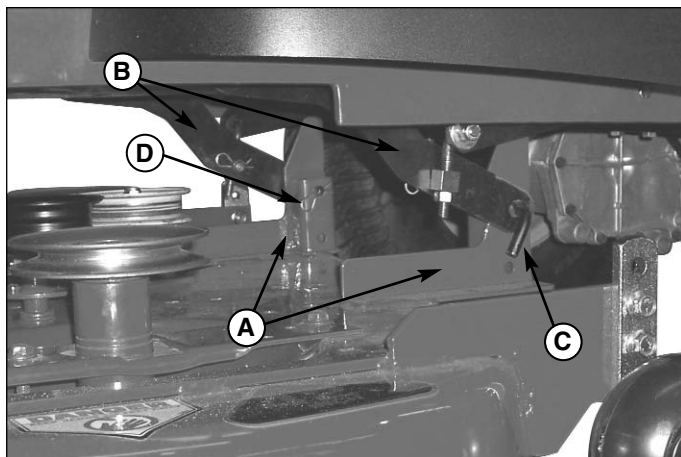

Figure 11. Rear Deck Lift Components (Belt Removed For Clarity)
4. Remove the hairpin clips (D, Figure 11) and clevis pins (C) securing the rear deck brackets (A) to the rear hanger arms (B).
5. Slide one washer (D) against the inside of each side of the front deck bracket (B), and install the retained hairpin clips (C) into the holes in the front hanger bar (A).
6. Align the rear deck brackets (A, Figure 11) between the rear hanger arms (B), then install the clevis pins (C) and hairpin clips (D) retained from deck removal.